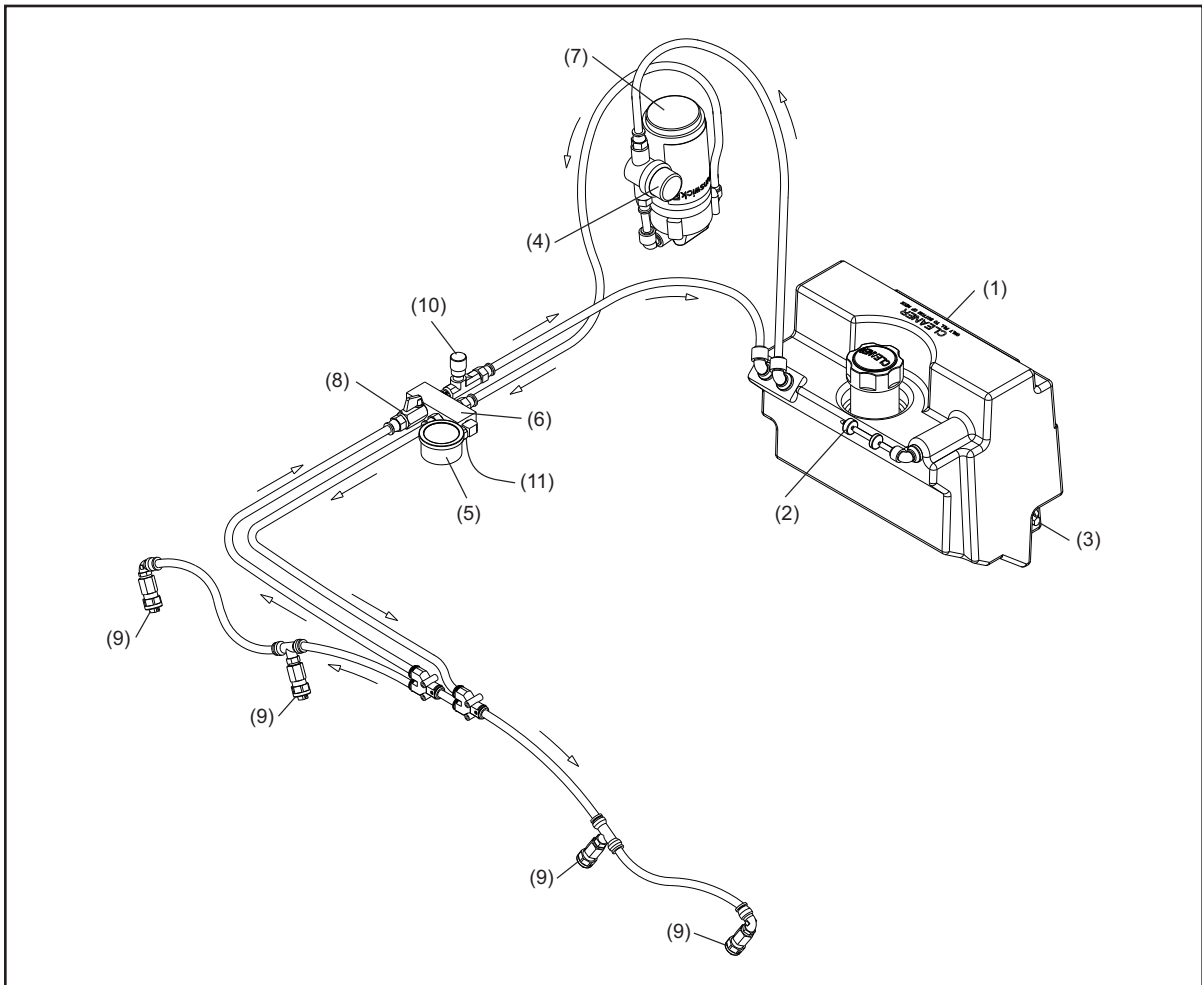

Figure 7-3. Cleaner Spray System
2. The cleaner pump applies cleaning fluid to the lane. Refer to *Figure 7-3*.